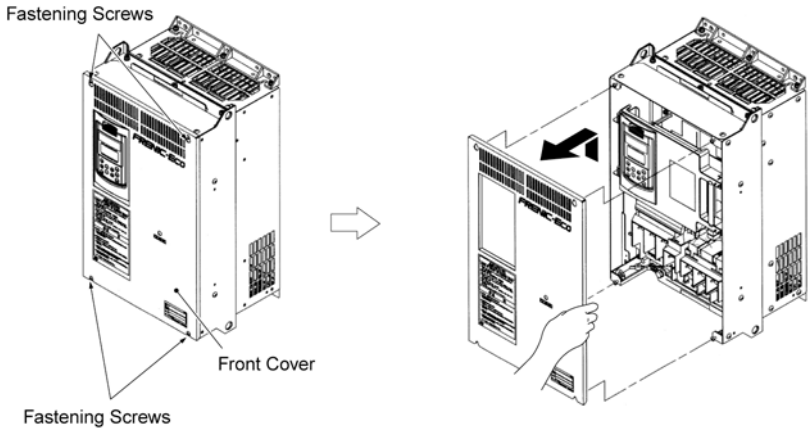

Figure 2.8 Removing the Front Cover (FRN040F1S-2DY)*
(2) For inverters with a capacity of 40HP for 208V, 50HP for 460V to 125HP for 208V, 200HP for 460V
- ① To remove the front cover, loosen the four fastening screws on it, hold it with both hands, and slide it upward. (Refer to Figure 2.8.)
- ② Put the front cover back in reverse order of the ①. Make sure to properly match the position of the screw holes on both of the front cover and inverter case.